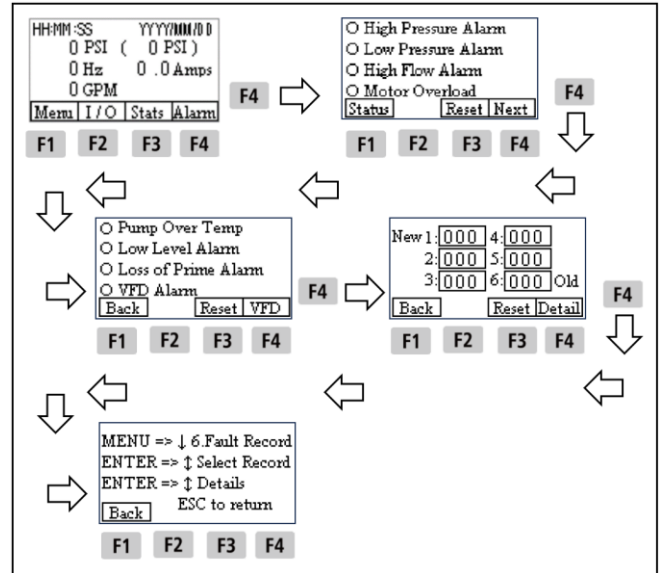

Figure 13-1. Accessing Alarm Screens.
The VFD records both System alarms related to pump station operation (Rain Bird configuration), and VFD alarms specific to the VFD (VFD configuration). From the System Status screen, press the **F4** Alarm key to open the first screen of System alarms. Pressing the **F4** Next key will proceed to the next screen of System alarms. Pressing the **F4** VFD key will access the VFD Alarm List. Pressing the **F4** Detail key will proceed to a screen showing how to get additional detail on VFD alarms. See Figure 13-1.
3. After accessing the System Alarm list as stated in System And VFD Alarms, press the **F3** Reset key on the System Alarm screen to clear the alarm (see Figure 13-1).